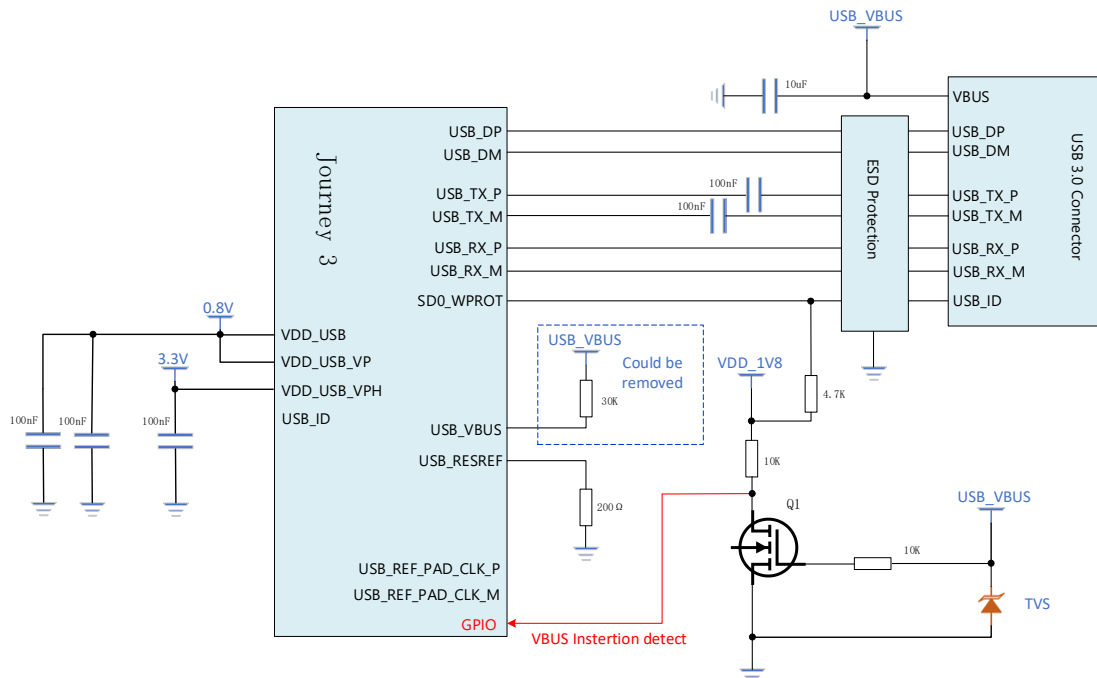

Figure 2-11 VBUS Insertion Detection Solution
**Solution A:** use a separate GPIO to detect the VBUS insertion. Please refer to the Figure 2-11 for the detail connection. Dedicated software thread is needed for GPIO status polling.